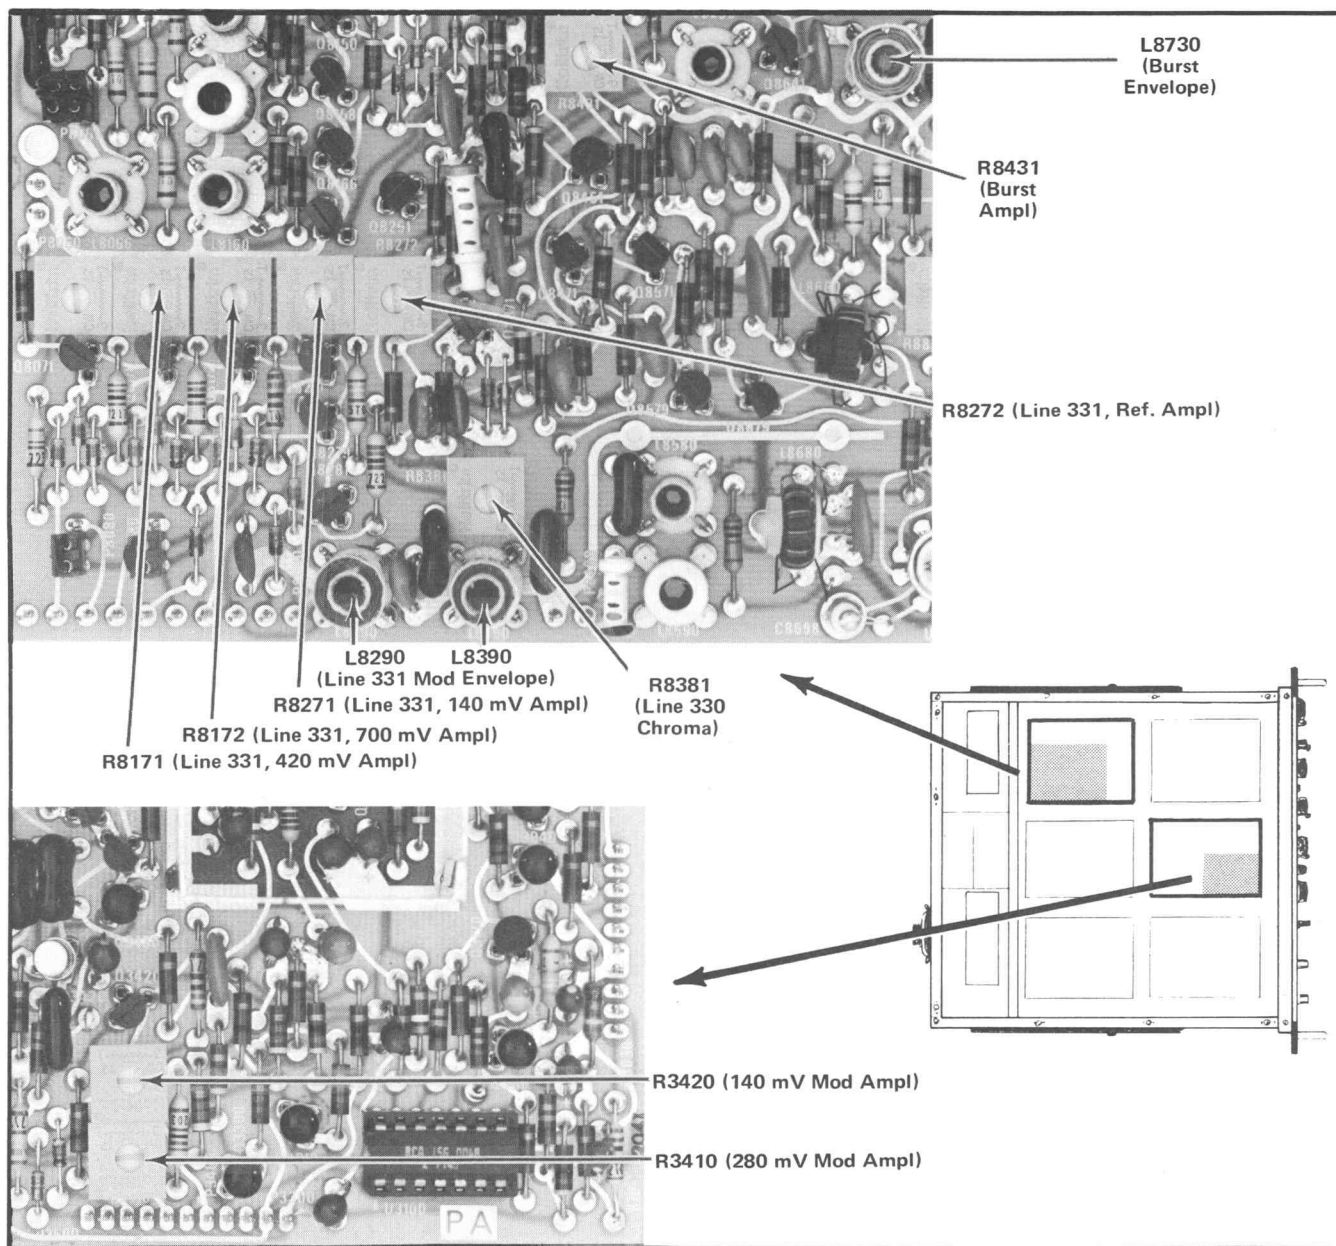

Fig. 4-16. Chrominance adjustment location.
b. Display the rear-panel FULL FIELD TEST SIGNAL on the test oscilloscope. Connect the chopper to the test oscilloscope. Display the chopped waveform. (See NOTE following item 6 of the Test Equipment Used list.) See Fig. 4-16 for adjustment locations.